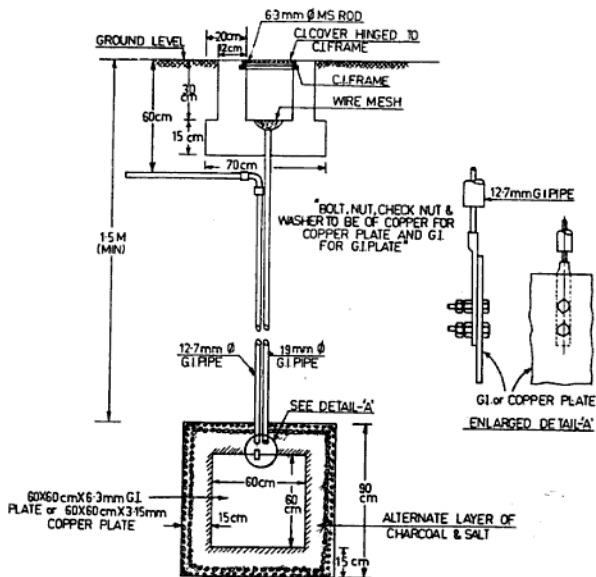

Fig. 10.12 Plate earthing
**Plate Earthing** In this system of earthing a pit is dug in the ground until sufficient moisture is available in the soil (3 m approximately). Then a G.I. or copper plate is connected to the earth continuity conductor with nuts and bolts as shown in Fig. 10.12.